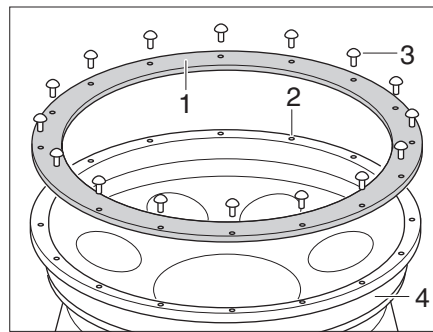

Fig. 405 Wheel protection ring
- Drop the threadlocker Loctite® 222 into the core hole (Fig. 405,2).
- Install the wheel protection ring (Fig. 405,1) to the wheel (Fig. 405,4) using the screws (Fig. 405,3).
- Tighten the screws (Fig. 405,3) with a torque of 2-3 Nm.